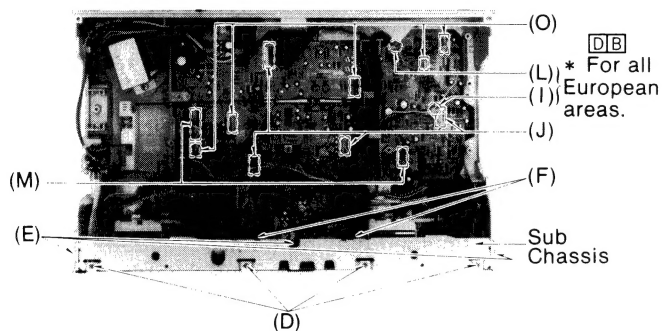
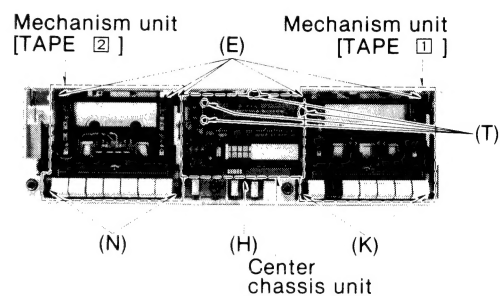
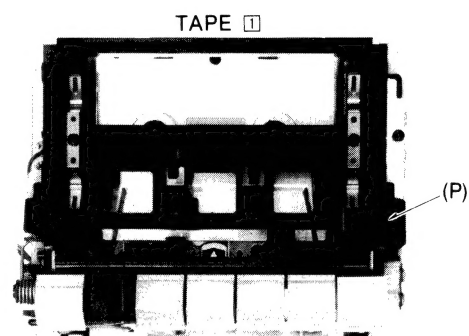
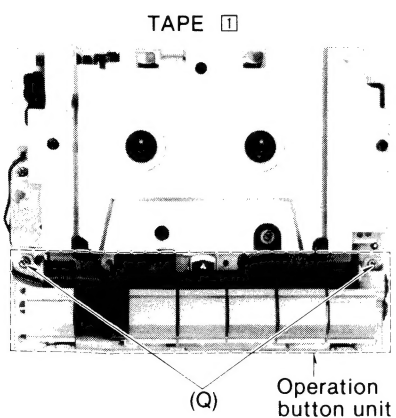

Fig. 3
Fig. 4
Fig. 6
Fig. 7
Ⓑ Head azimuth adjustment [TAPE 1], [TAPE 2] Condition: • Playback mode Equipment: • VTVM • Oscilloscope • Test tape (azimuth) ... QZZCFM	L-ch/R-ch output balance adjustment 1. Make connections as shown in fig. 3.  2. Playback the 8kHz signal from the test tape (QZZCFM). Adjust screw (B) in fig. 4 for maximum output L-ch and R-ch levels. When the output levels of L-ch and R-ch are not at maximum at the same time, readjust as follows. 3. Turn the screw shown in fig. 4 to find angles A and C (points where peak output levels for left and right channels are obtained). Then, locate the angle B between angles A and C, i.e., a point where L-ch and R-ch output levels come together at maximum. (Refer to figs. 4 and 5.)   L-ch/R-ch phase adjustment 4. Make connections as shown in fig. 6. 5. Playback the 8kHz signal from the test tape (QZZCFM). Adjust screw (B) shown in fig. 4 so that pointers of the two VTVMs swing to maximum and a waveform as illustrated in fig. 7 is obtained on the oscilloscope.
Ⓓ Playback frequency response [TAPE 1], [TAPE 2] Condition: • Playback mode • Normal tape mode • Set TAPE 1 level control to "8". Equipment: • VTVM • Oscilloscope • Test tape ... QZZCFM	Playback frequency response chart [TAPE 1], [TAPE 2]  1. Test equipment connection is shown in fig. 3. 2. Place UNIT into Normal tape mode. 3. Playback the frequency response test tape (QZZCFM). 4. Measure output level at 315 Hz, 12.5 kHz, 8 kHz, 4 kHz, 1 kHz, 250 Hz, 125 Hz and 63 Hz, and compare each output level with the standard frequency 315 Hz, at LINE OUT. 5. Make measurement for both channels. 6. Make sure that the measured value is within the range specified in the frequency response chart (shown in fig. 9). Fig. 9
Ⓔ Playback gain [TAPE 1], [TAPE 2] Condition: • Playback mode • Normal tape mode • Set TAPE 1 level control to "8". Equipment: • VTVM • Oscilloscope • Test tape ... QZZCFM	1. Test equipment connection is shown in fig. 3. 2. Playback standard recording level and measure the output level at LINE OUT. 3. Make measurement for both channels. <div style="border: 1px solid black; padding: 5px; text-align: center;"> Standard value: TAPE 1, TAPE 2  [0.42 V; at 8"] </div> Adjustment 1. If measured value is not within standard value, adjust VR1 (TAPE 2: L-CH), VR2 (TAPE 1: L-CH) and VR3 (TAPE 2: R-CH). 2. After adjustment check "Playback frequency response".
Ⓕ Erase current [TAPE 2] Condition: • Record mode • Metal tape mode Equipment: • VTVM • Oscilloscope	1. Test equipment connection is shown in fig. 3. 2. Place UNIT into Metal tape mode. 3. Press the record and pause buttons. 4. Read voltage on VTVM and calculate erase current by following formula: $\text{Erase current (A)} = \frac{\text{Voltage (V)}}{10}$ <div style="border: 1px solid black; padding: 5px; text-align: center;"> Standard value: 160 ± 20 mA </div> 5. If measured value is not within standard value, adjust VR4 (TAPE 2: L-CH) and VR5 (TAPE 2: R-CH). Adjustment 1. Open the point (A) and short the point (B). (See page 15). 2. Make measurement for erase current. 3. Make sure that the measured value is within the standard value. 4. If it is beyond the value, carry out the adjustment. • If the erase current is less than 160 mA, increase VR4 and VR5. • If the erase current is more than 160 mA, decrease VR4 and VR5.
<p>ection is shown in fig. 3.</p> <p>ording level portion on test tape (QZZCFM 315Hz, 0dB), and using VTVM level at LINE OUT.</p> <p>or both channels.</p> <p>TAPE [1], [2]; 0.4V ± 1dB  [0.42V; at test point TP3 (L-CH) and TP4 (R-CH)]</p> <p>not within standard, adjust VR201 (TAPE [1]: L-CH), VR202 (TAPE [1]: R-CH), VR2 (TAPE [2]: R-CH).</p> <p>ck "Playback frequency response" again.</p>